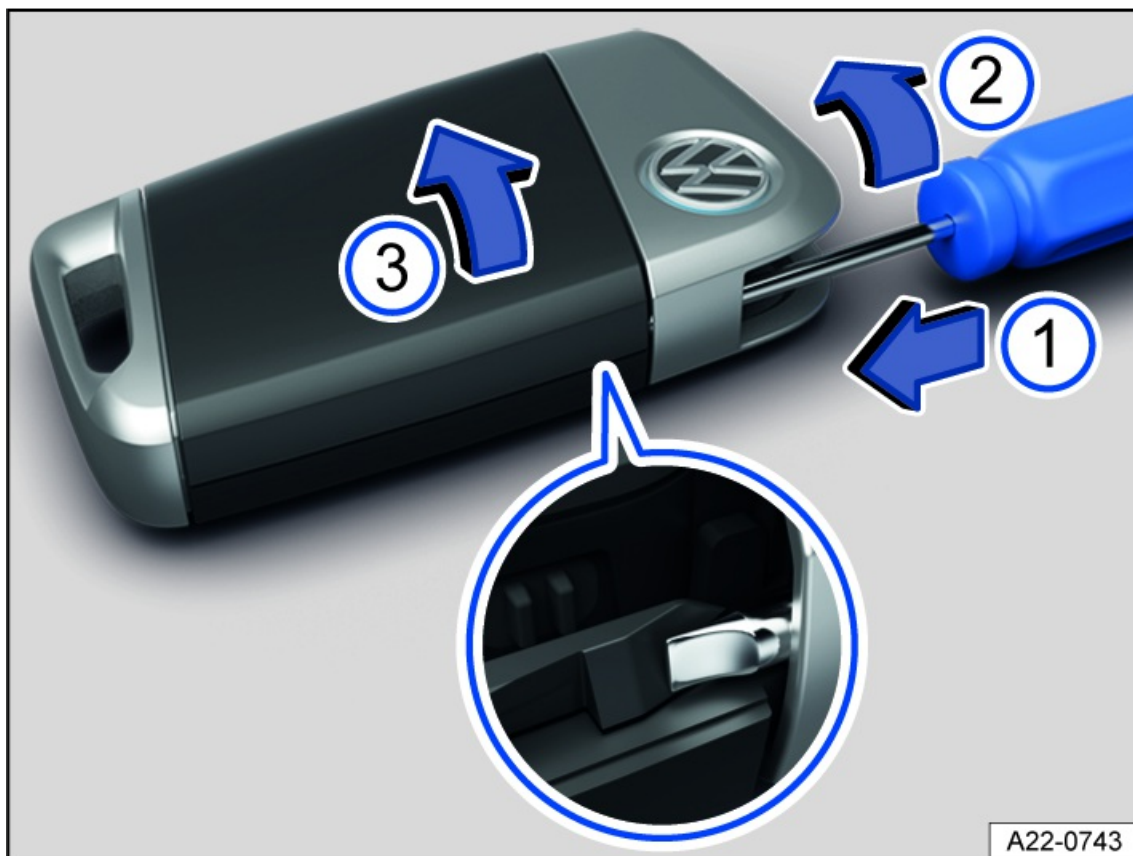

Fig. 50 Remote control vehicle key: opening the battery compartment cover.
2. Slide the blade of the flat-bladed screwdriver in the direction of the arrow approximately 1 cm into the outer guide on the emergency key in the vehicle key *fig. 50*.
3. Turn the flat-bladed screwdriver clockwise until the cover pops up *fig. 50*.
4. Push the cover in the direction of the arrow and remove it *fig. 50*.
7. Press the cover onto the housing *fig. 50* , ⇒ .